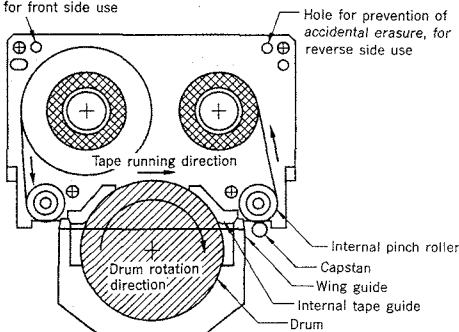

Fig. 12: NT-format DAT loading mechanism
- (1) Small size (30 × 21.5 × 5 mm) and low weight (2.8 gr). Volume 1/4.2 that of a microcassette and 1/25 that of a compact cassette. Capable of 120 minutes of digital stereo sound recording and reproduction.
- (2) The track is divided into an upper and a lower half and separate helical tracks are created for the forward and reverse directions. As is the case with conventional compact cassettes, the cassette can be turned over and both sides used.
- (3) Employs nonloading method, meaning that the rotary head drum is inserted into the cassette from the front-surface opening without pulling the tape out from the cassette, as shown in Fig. 12.